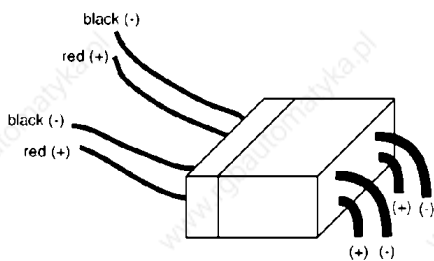
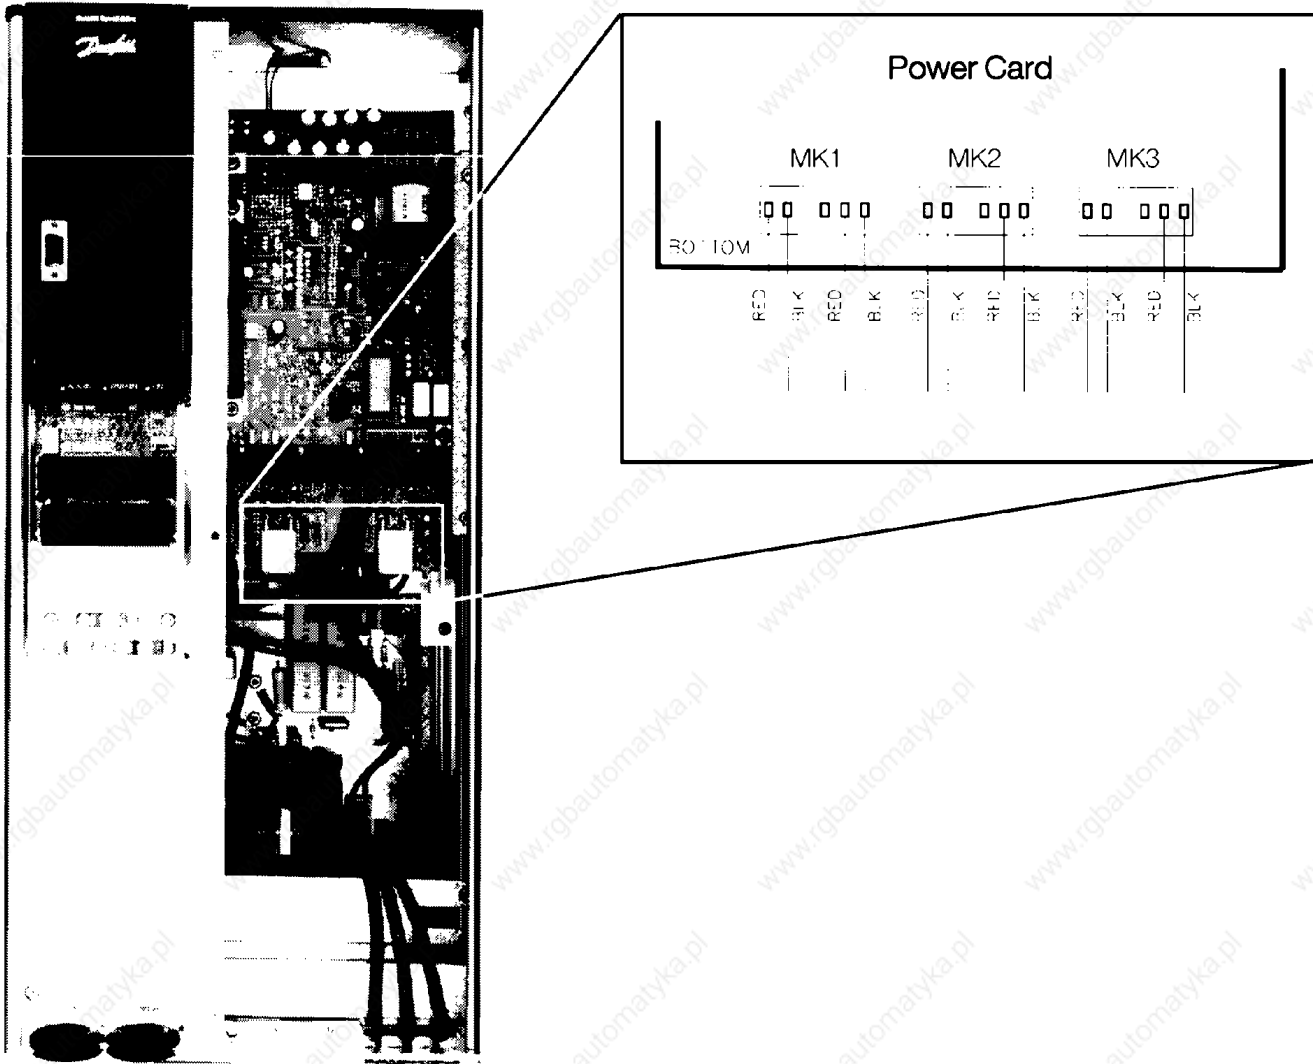

Figure 4: MK Connector
Figure 6: Gate Pulse Pin-outs
1. On power card, locate connectors marked "MK1", "MK2" and "MK3". Two pairs of leads connect to each connector, consisting of a red and a black lead. Red leads connect to gate of each IGBT. Black leads connect to emitter of IGBT. (See Figure 4 and Figure 6 on the following page.)